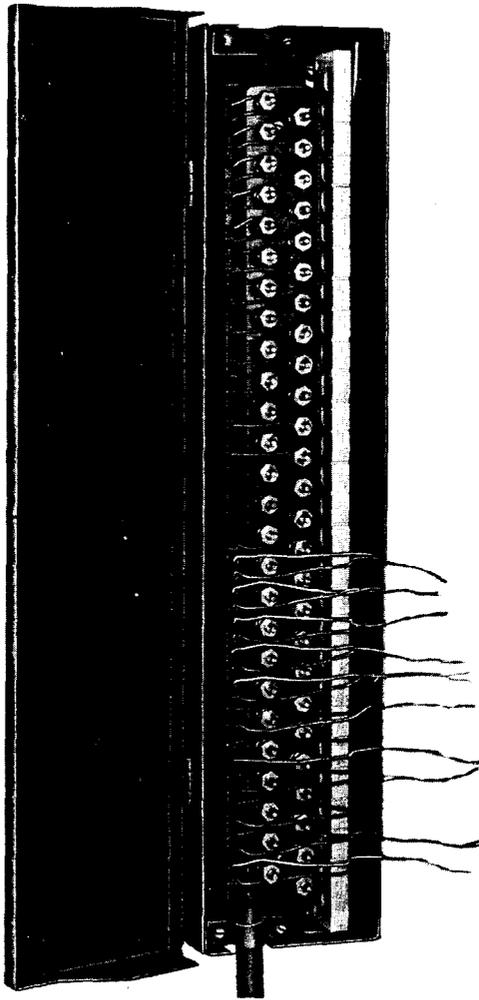

Fig. 8—Terminating Inside Wiring Cable
- (1) Removing jacket from the cable as required to terminate conductors.
- (2) Twisting pairs to prevent splitting.
- (3) Fastening cable to the adapter, using size of cable clamp required.
- (4) Fan in cable conductors, using standard color code. Place each conductor in the slot of the fiber fanning strip opposite the proper binding post. (See Fig. 8.)